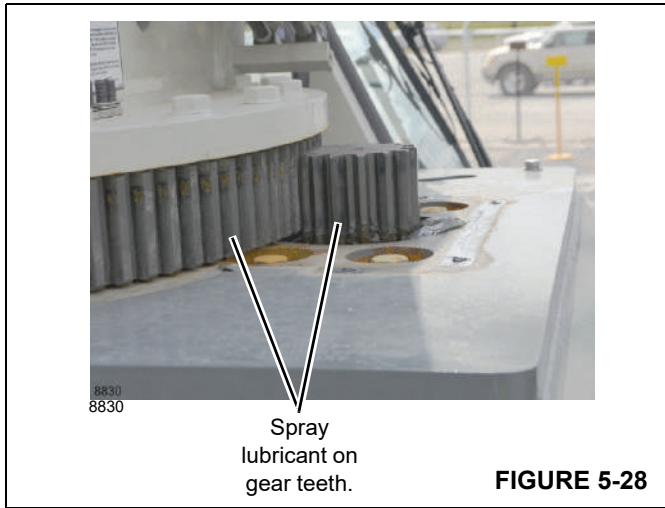

FIGURE 5-28
2. Remove the swing pinion guard (Figure 5-28).